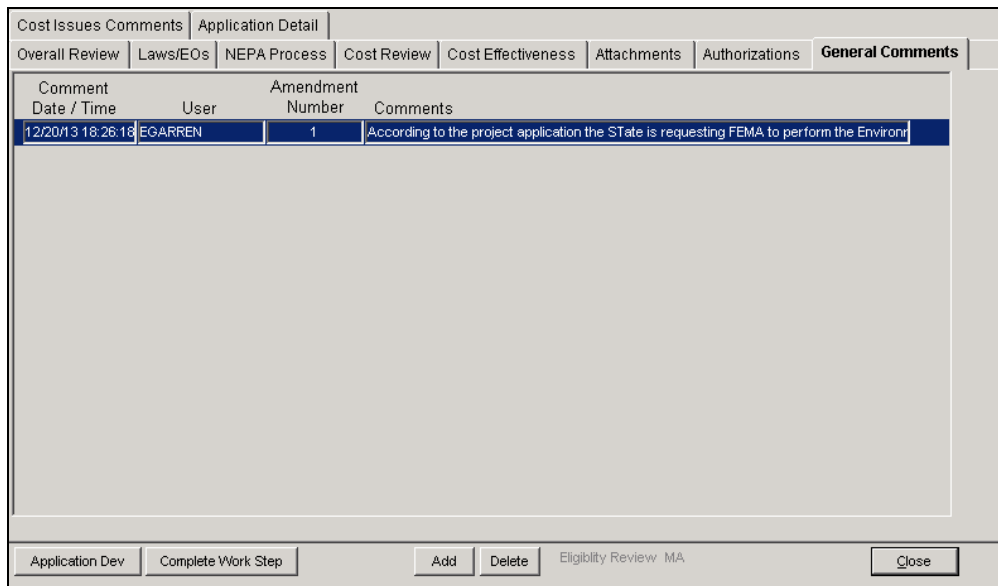

Figure 7-79: Mitigation > Projects > Eligibility Determination > General Comments Tab
6. Click the **General Comments** tab (Figure 7-79).